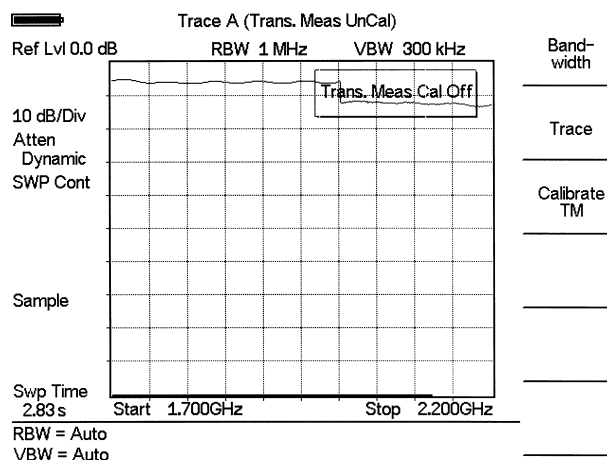

Figure 10-2. Uncalibrated Narrowband Trace
- Step 4.** Following the on-screen prompt, connect a phase-stable cable between the **RF Out** port and the **RF In** port. If an attenuator is required for the measurement, connect it directly to the **RF Out** port and connect the cable to the attenuator output. The displayed trace before calibration should be similar to the one shown in Figure 10-2.